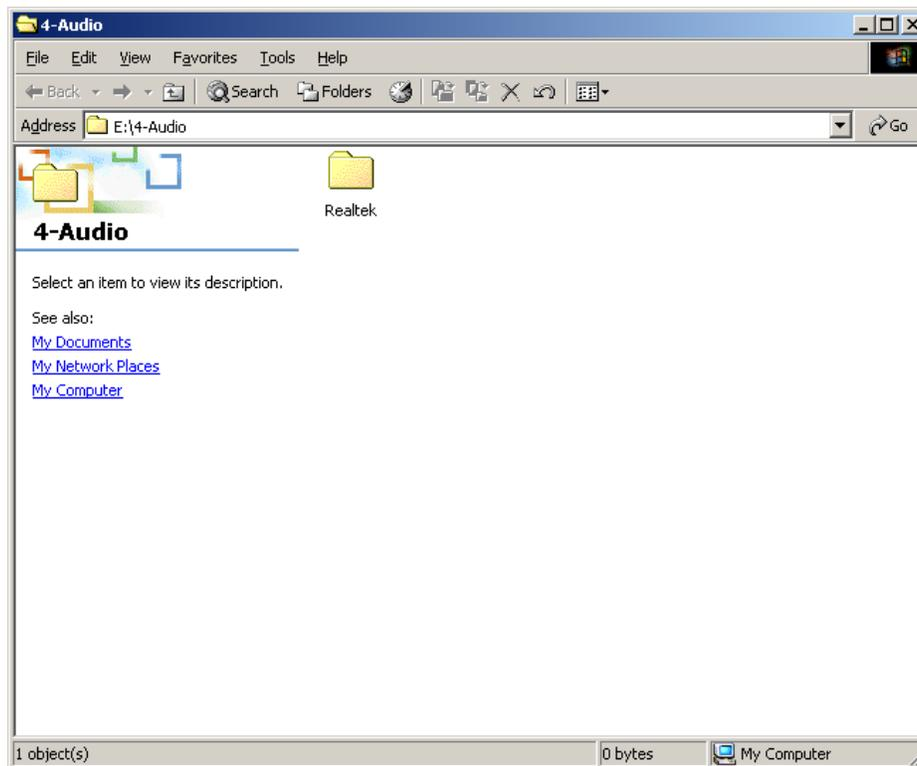

Figure 6-12: RealTek
Step 4: Select the “RealTek” icon shown in **Figure 6-12**.